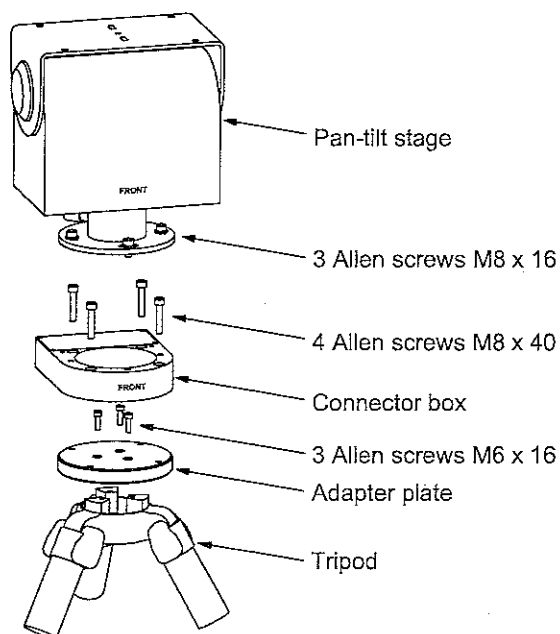

Figure 3.13: Mounting the pan-tilt stage on the tripod
7. Now mount the adapter plate on the top of the tripod using the 3 Allen screws M6x16 as also shown in figure 3.13. Ensure that the knob on the underside of the tripod is always tightened securely.